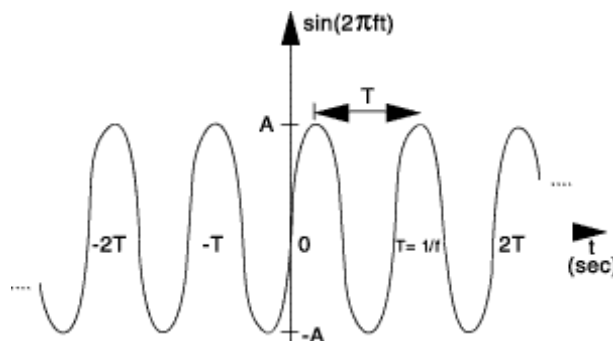

Figure A-3. Sine wave with amplitude  $A$ , frequency  $f$ , and period  $T$ .
*The sine wave equation:* All of us should have studied the sine and cosine trigonometric functions in math and physics classes. A sine wave is described by an equation of the form  $v(t) = A \sin(2\pi ft) = A \sin(\omega t)$ , where the variable  $t$  represents time. We use the term "wave" because the shape is similar to a water wave that you might see on an ocean or a lake. As shown in Figure A-3, a sine wave is characterized by two parameters, called amplitude ( $A$ ) and frequency ( $f$ ). The amplitude  $A$  determines the maximum value that the sine wave achieves along the vertical axis. The sine wave takes on values between  $+A$  and  $-A$  at various times.
*Adding a DC offset:* If we add a DC offset voltage to the sine wave signal, as shown in Figure A-3, it moves the wave such that it is centered around the DC offset. The equation becomes  $v(t) = A \sin(2\pi ft) + V_{DC}$ . In electronics, the AC and DC parts of a signal can be treated as two mutually exclusive entities.